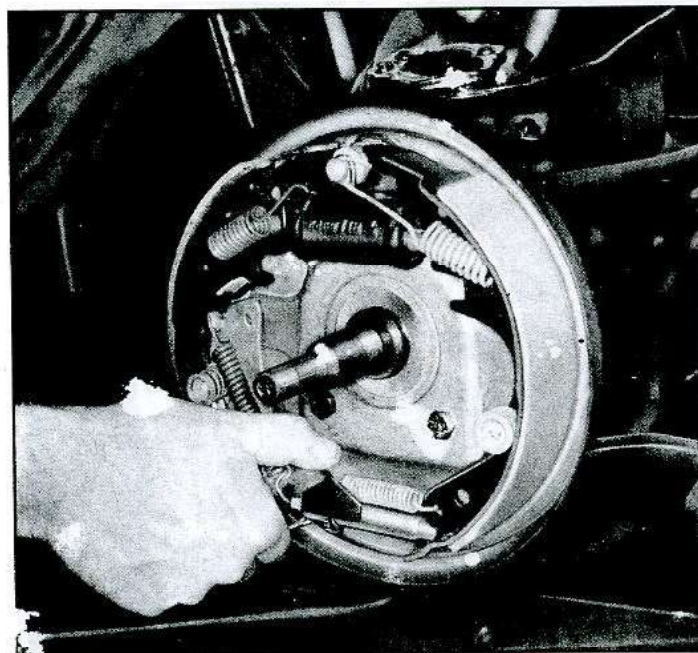

Fig. 21—Checking Operation of the Actuating Lever
15. After completing installation, make certain the actuator lever functions easily by hand operating the self-adjusting feature (fig. 21).